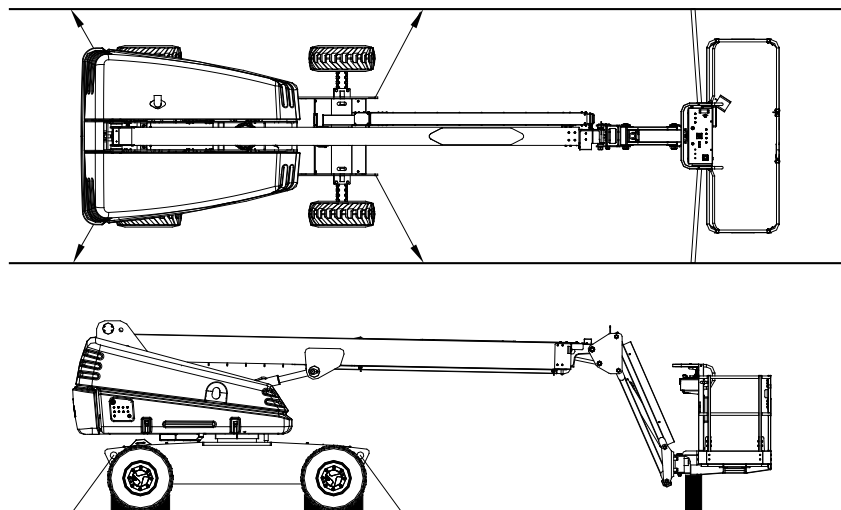

Figure 3-12. Tie-down Points
6. Anchor down aerial platform to transport surface using tie-down points (refer to Figure 3-12).